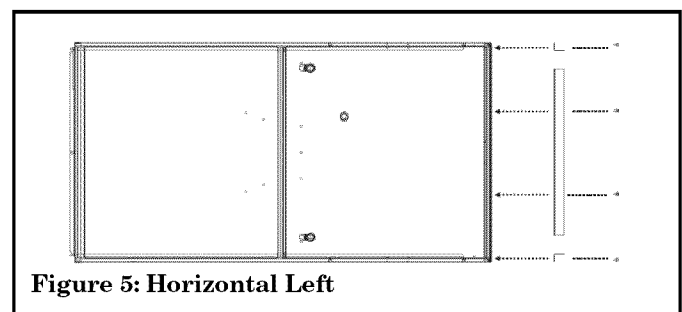

Figure 5: Horizontal Left
1. See Figures 5, 6, and 7 for flange orientation.